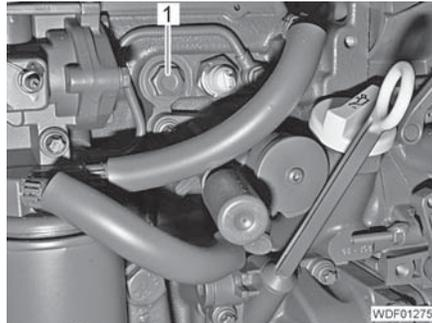

Fig. 25 Plug
- Unscrew the plug (Fig. 25,1).